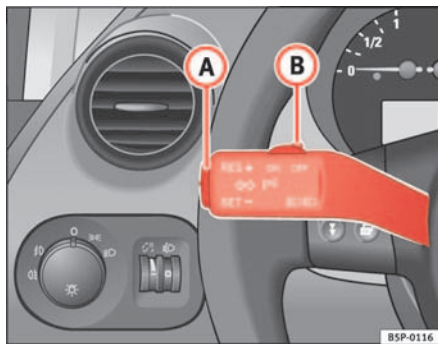

Fig. 142 Turn signal and main beam lever: switch and rocker switch for CCS
- Press the lower part **SET** of the rocker switch ⇒ fig. 142 **A** once briefly when you have reached the speed you wish to set.